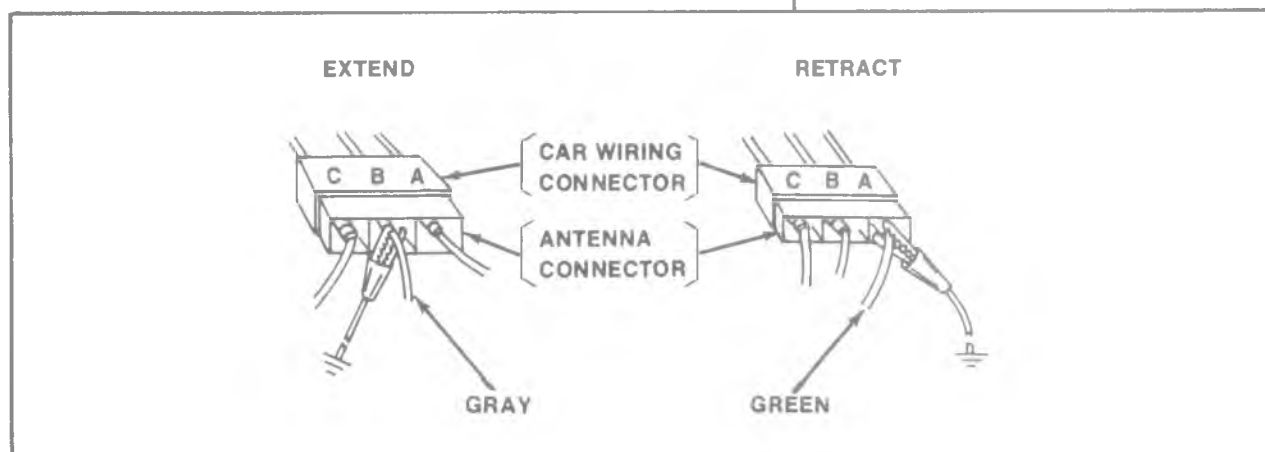

Fig. 9-C
STEP 8 1) Ignition and radio switches ON. 2) Connect test light lead to ground and probe car wiring terminals attached to relay terminals 3, and 6. Refer to Figure 9-D.	TEST LIGHT ON AT TERMINALS 3, AND 6. Locate and repair open in wire from no. 3 terminal to antenna black wire terminal. TEST LIGHT ON AT TERMINAL 6, OFF AT 3 Check relay ground from terminal no. 5. If OK, replace relay. TEST LIGHT OFF AT TERMINAL 6. Re-check radio fuse. If OK, locate and repair open in circuit from radio fuse to relay terminal no. 6